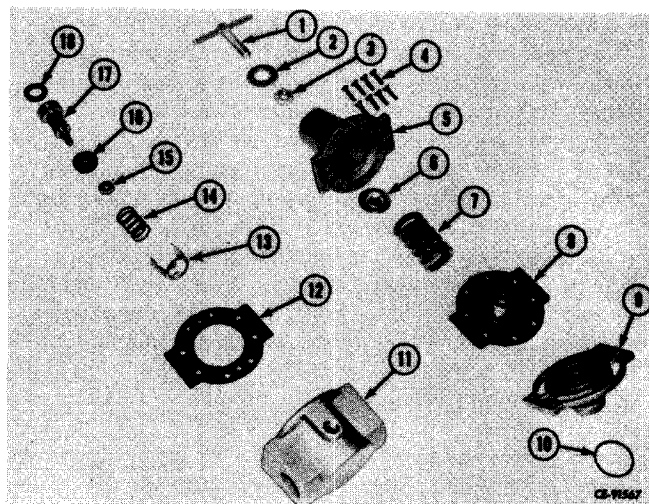

Figure 14-4
Loosen lock nut (3, Fig. 14-4) and unscrew adjusting screw (1). Remove screws (4). Separate bonnet (5), spring seat (6), spring (7) and diaphragm (8). Remove cartridge assembly from body (11). Remove nut (15) and poppet (16). Slide piston (17) out of cartridge (9). Remove piston seal (18) from piston. Remove "O" ring (10). Remove compensating spring (14), gauge port shield (13) and gasket (12) from body.
Install shield (13, Fig. 14-4) and spring (14) in body (11) and gasket (12) on body. Install seal (18) on piston. Slide piston in cartridge (9) and install poppet (16) on it. Secure with nut (15).